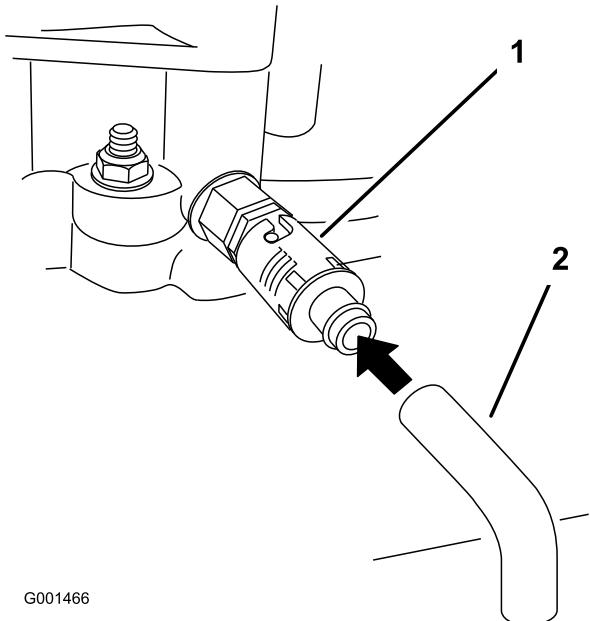

Figure 38
6. Place a pan below the drain hose. Rotate oil drain valve to allow oil to drain (Figure 38).
8. Remove the drain hose (Figure 38).